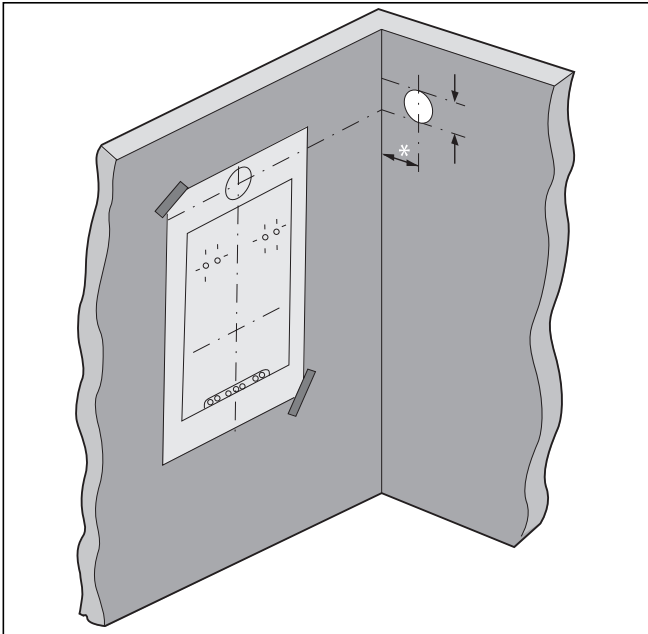

Fig. 2.13 Installation template
- For installations where the air/flue duct is to be installed to the side, the position of the flue exit hole can be determined by carefully levelling across the wall from the centre line of the air/flue duct hole marked on the template (fig. 2.13).